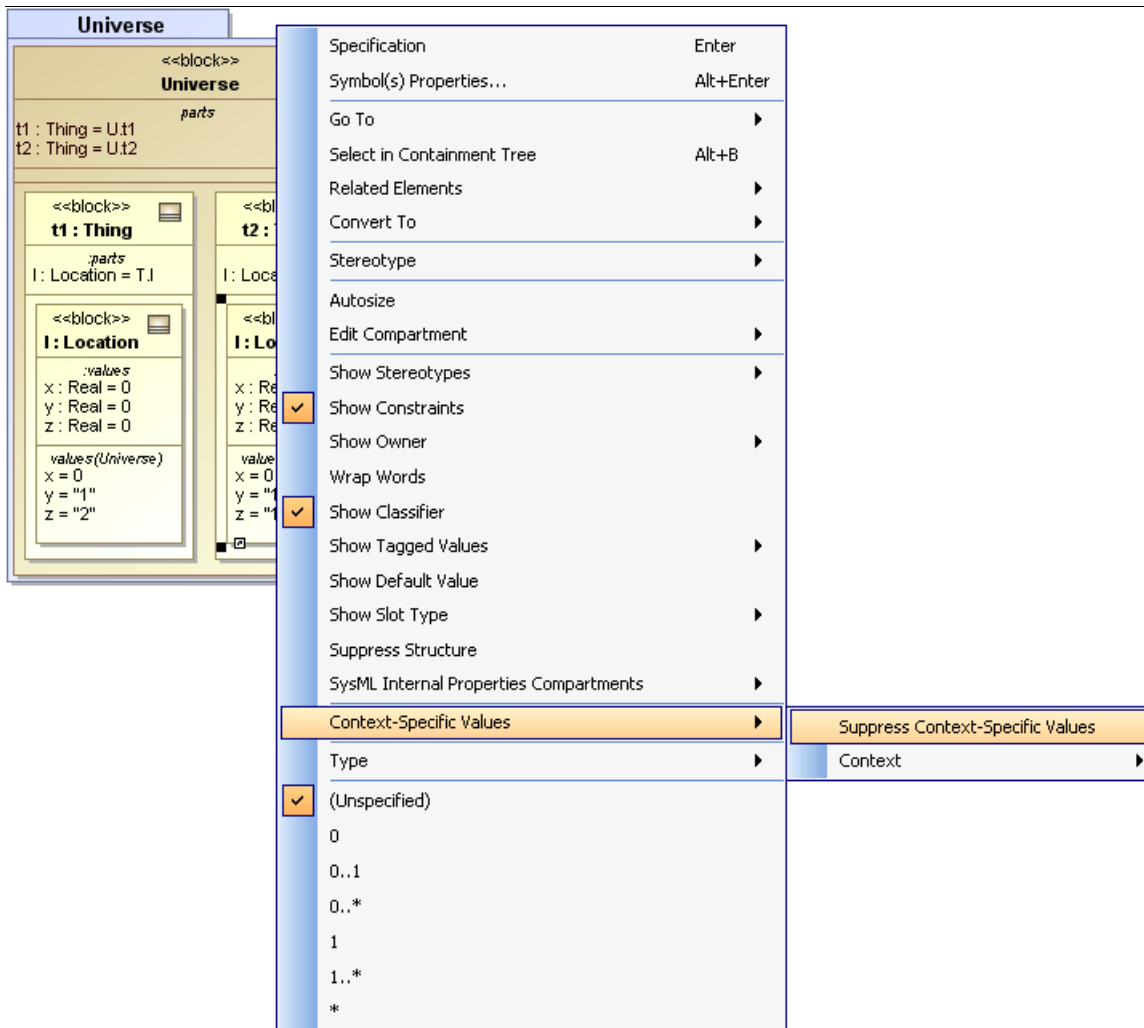

Figure 229 -- Shortcut Menu for Suppress Context Specific Values
- On the shortcut menu, clear the **Suppress Context Specific Values** option under the **Context Specific Values** group (Figure 229).
- On the shortcut menu, select the **Suppress Context Specific Values** option under the **Context Specific Values** group (Figure 229).